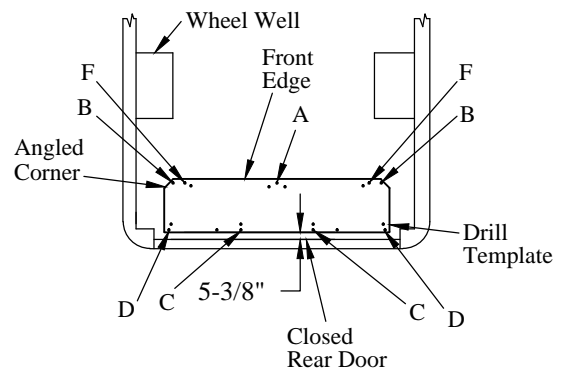

Figure 4: Drill template location (top view).
2. **Place** the drill template in the rear of the van (Figure 4):
11. **Place** the drill template in the rear of the van (Figure 4):